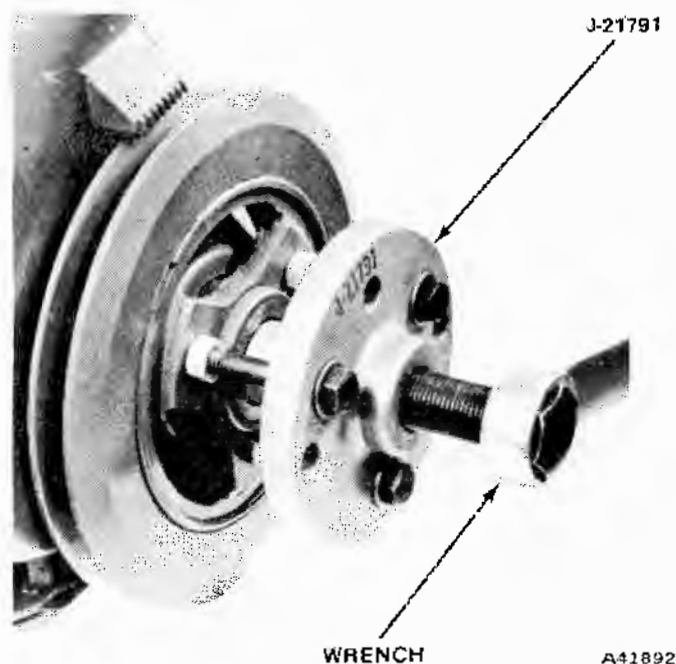

Fig. 1A-22 Vibration Damper Removal
(1) Remove drive belt(s).
(2) Remove three retaining capscrews and separate accessory pulley from vibration damper, if so equipped.
(3) Remove the vibration damper retaining bolt and washer.
(4) Use Vibration Damper Remover Tool J-21791 to remove damper from the crankshaft as shown in figure 1A-22.